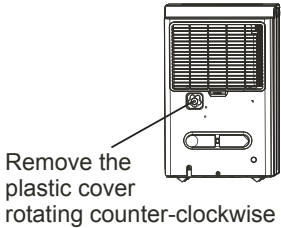

Fig. 7
- Remove the plastic cover from the back drain outlet of the unit and set aside, then insert the drain hose through the drain outlet of the unit and lead the drain hose to the floor drain or a suitable drainage facility. (See Fig. 7 and Fig. 8)